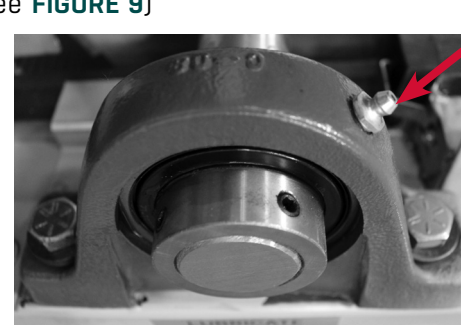

FIGURE 9. Pump grease into two rotor bearing grease points, one on each side of the rotor.
- 1) Pump grease into the two rotor bearing grease fittings using a high quality NLGI No. 2 grease (See **FIGURE 9**)